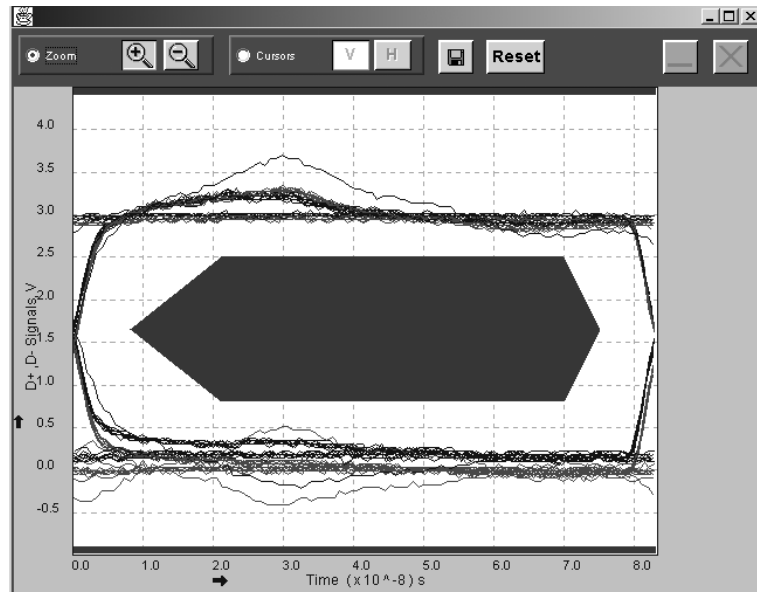

Figure 2-72: Eye diagram for full speed upstream signal quality testing
6. The application automatically displays the Eye Diagram and the Waveform Plot of the signal acquired from the unit under test. Figure 2-72 shows the eye diagram for full speed upstream signal quality testing.